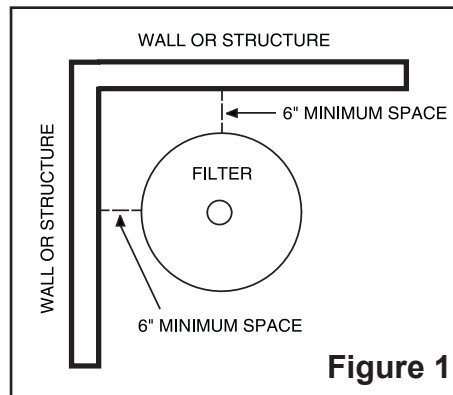

Figure 1
4. Allow sufficient clearance around the filter to permit visual verification that the clamp ring is properly installed around the tank flanges, see **Figure 1**.